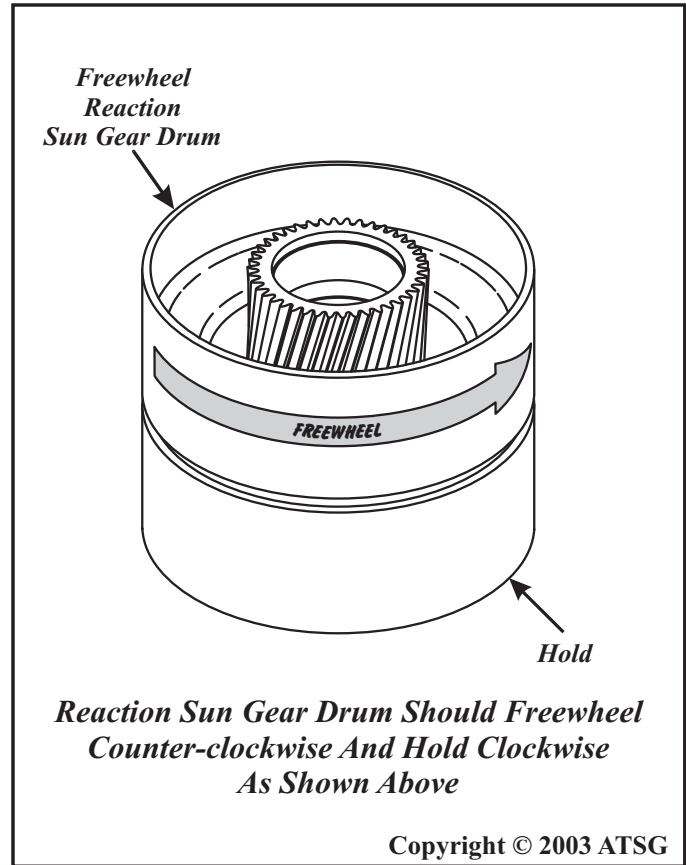

Figure 104
5. Position the 1-2 support assembly on bench as it would be in unit (See Figure 104).
6. While holding the 1-2 roller clutch support, the sun gear drum should rotate *counterclockwise* only, as shown in Figure 104.